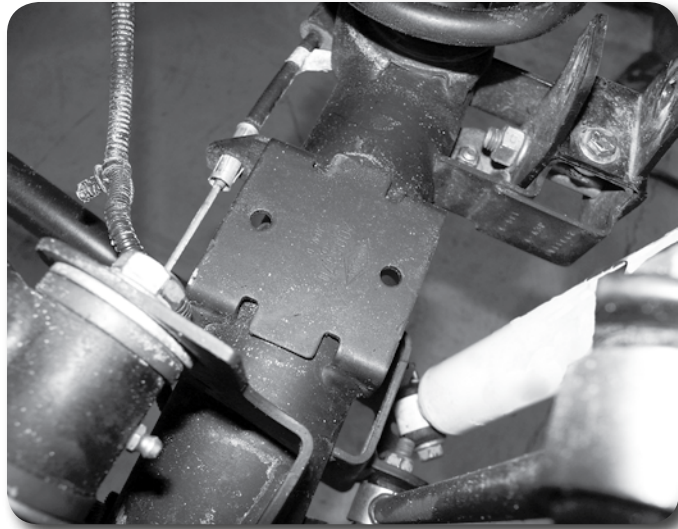

Figure 7
11. Install the provided bump stop spacers on the axle using the existing holes in the axle bump stop pad. Fasten the bump stop to the axle with 5/16" x 7/8" bolts, nuts and 5/16" SAE washers. Torque bolts to 20 ft-lbs. (Figure 7)